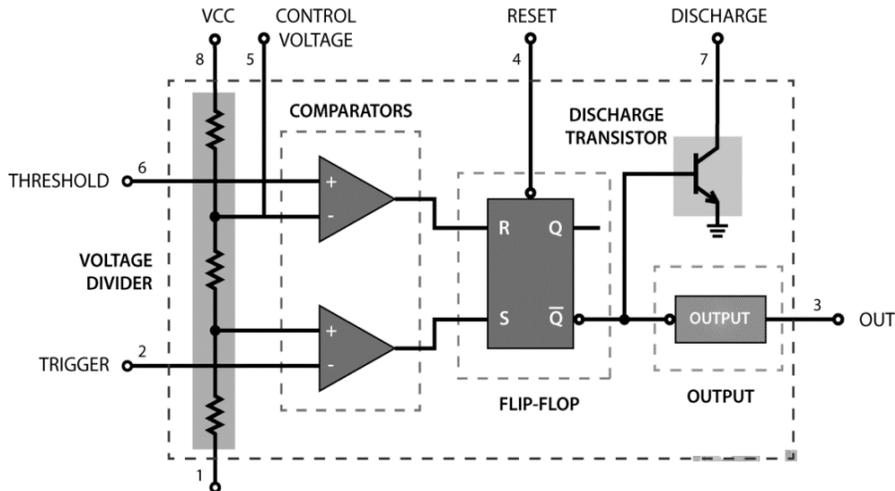

Figure 4
The 555 Timer is a highly stable integrated circuit that can produce accurate time delays and oscillations. The 555 Timer has three operating modes, bistable, monostable and astable mode. As represented in figure 4 (block diagram), it have of 2 comparator, flip flop and voltage divider, a discharge transistor and an output stage. It is 8 pin integrated circuit (IC).